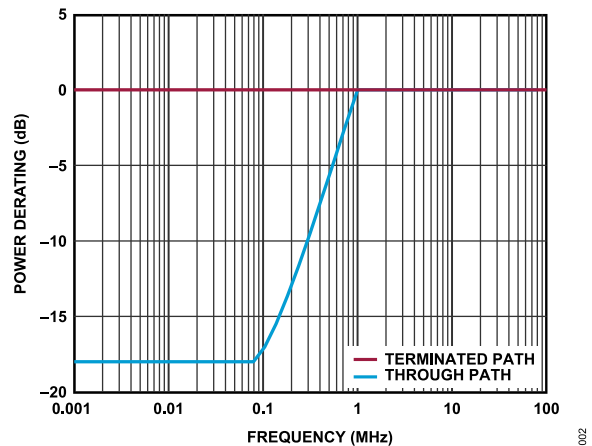
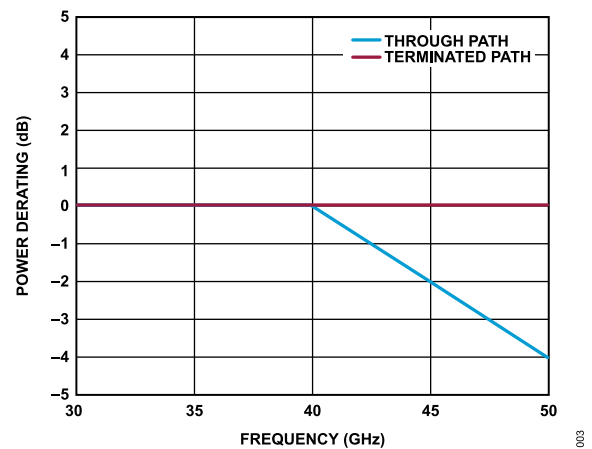

Figure 2. Power Derating vs. Frequency, Low Frequency Detail, T_{CASE} = 85°C
Figure 3. Power Derating vs. Frequency, High Frequency Detail, T_{CASE} = 85°C
- ¹ For power derating over frequency, see Figure 2 and Figure 3.